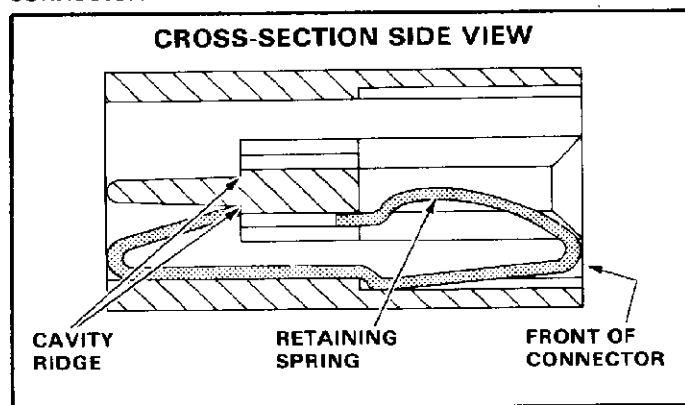

Fig. 4
7. RETAINING SPRINGS (Figure 4)
To insert the retaining spring, orient and start the short end into the **FRONT** of the desired cavity. See Figure 4. Push straight in until the short end snaps in place behind cavity ridge.